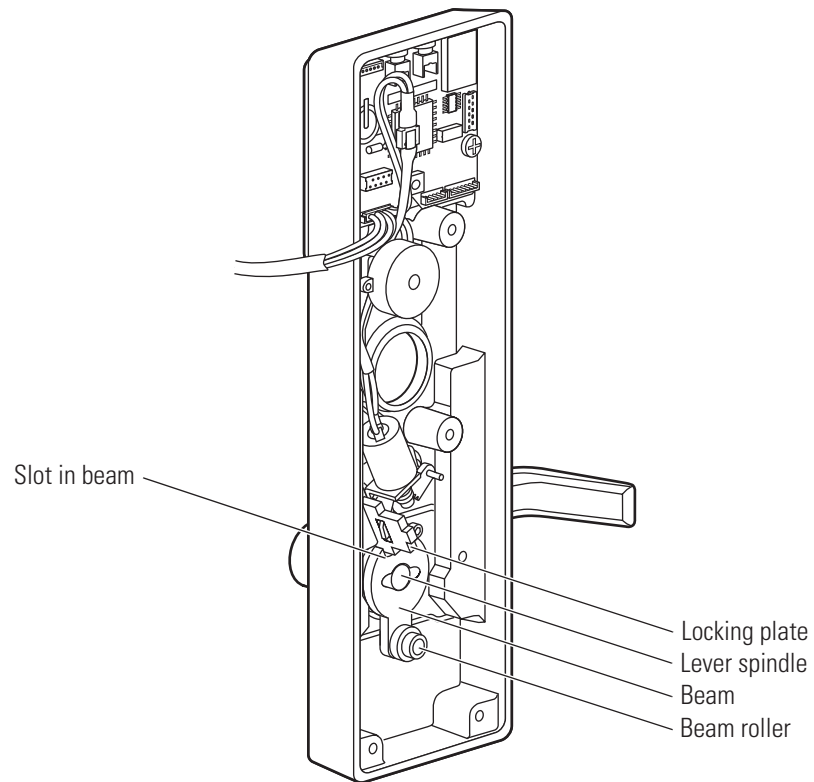

Figure 10.14 Removing and reinstalling the beam and beam (B.A.S.I.S. escutcheon shown)
3. Remove the beam and beam roller from the lever spindle. See Figure 10.14.
1. Place the beam on the lever spindle so that the slot in the beam aligns with the locking plate. See Figure 10.14.